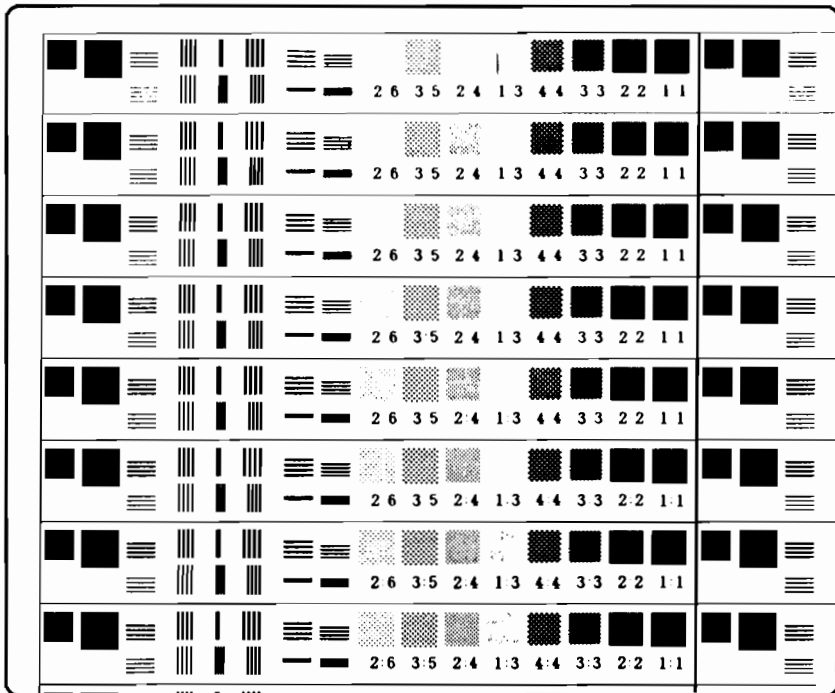

Figure 3-6. Chart A Printout
2. Hold down the **Alt** key and click the **Test** key. 05 SELF TEST is displayed. A Chart A printout is generated (Figure 3-6).